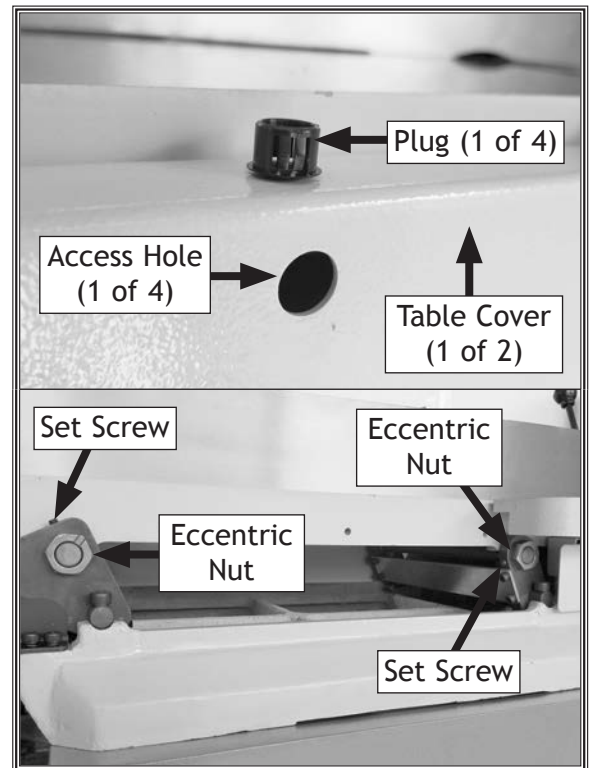

Figure 44. Accessing outfeed eccentric bushings (2 of 4).
2. Remove outfeed table covers by removing plugs (see **Figure 44**) and accessing cap screws that secure covers to table, and then loosen set screws from eccentric bolts under outfeed table (see **Figure 44**).